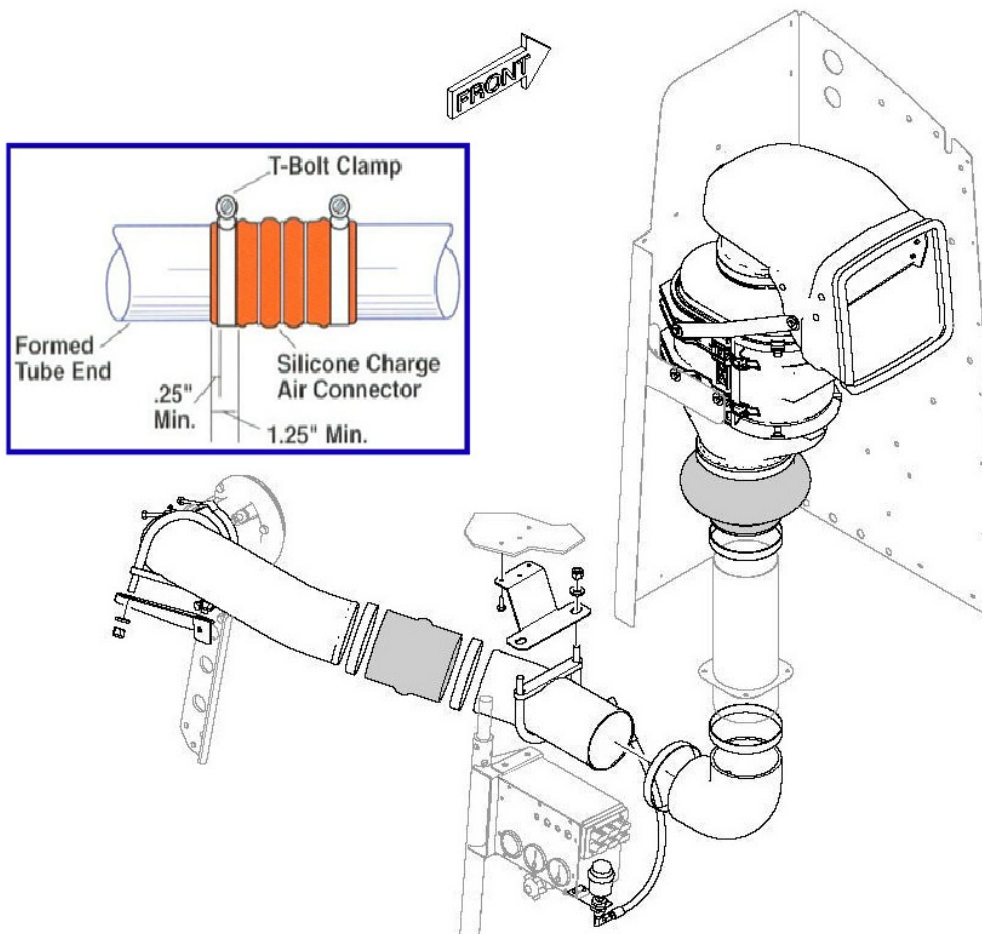

Figure 21: Air Filter Tube Routing
36. Remove the protective cap/plug covering the turbo intake and re-assemble the air intake tubes, 5.0" hose hump, 4.0" elbow and T-bolt clamps loosely per specifications on Figure 21. Torque all the T-bolt clamps to 80-90 in*lbs. Torque the tube support clamps loosened in Step 32 to 120-145 in*lbs.